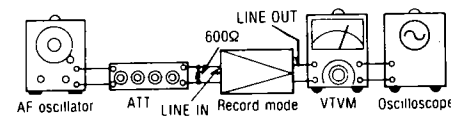

Fig. 16
- Make connections as shown (See fig. 16).